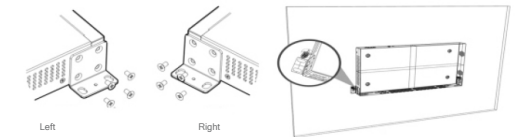

Figure 2
Step 1: As shown in Figure 2, find the mounting ears and screws (M3*5mm) from the accessories of the switch, then put the switch upright and fix the mounting ears on both sides of the machine with screws.